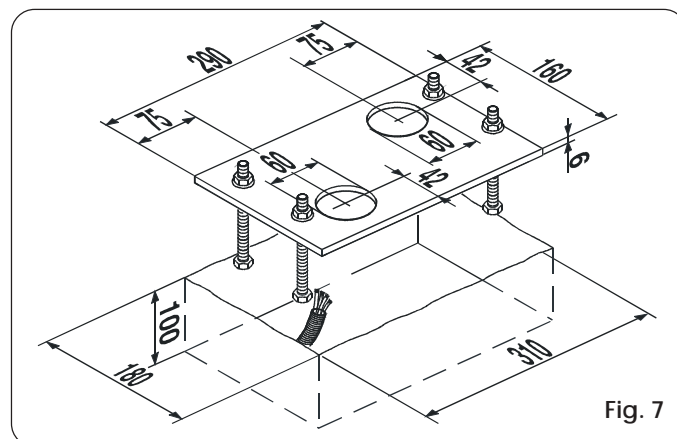

Fig. 7
- 3) Prepare a foundation plinth as in Fig.7 and enclose the foundation plate in a wall providing one or more sheaths for routing electric cables. Using a spirit level, check if the plate is perfectly level. Allow the cement to set.